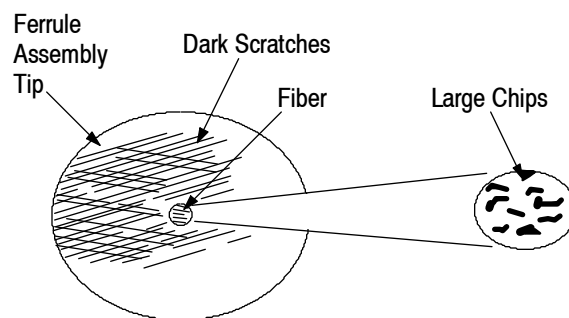

Figure 8
1. Using the microscope, inspect the ferrule assembly and fiber according to the following criteria (refer to Figure 8):